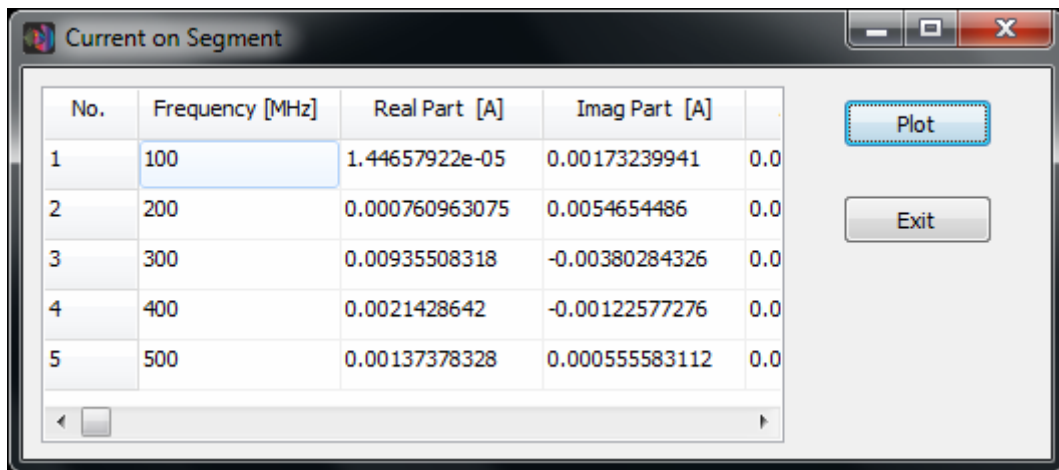

Fig. 13.6: The Current on Segment dialog box.
Displays the Current on Segment dialog box, Fig. 13.6, which shows a list of the currents in the selected segment versus frequency. The frequency spectrum of the current in the selected segment can be plotted pressing the Plot button.
4. Press the Current on Segment button to display the Current on Segment dialog box, Fig. 13.6. This dialog box shows a list of the currents in the selected segment versus frequency. Currents are shown in amplitude, phase, real and imaginary parts. Pressing the Plot button will plot the current in the selected segment as a function of frequency.